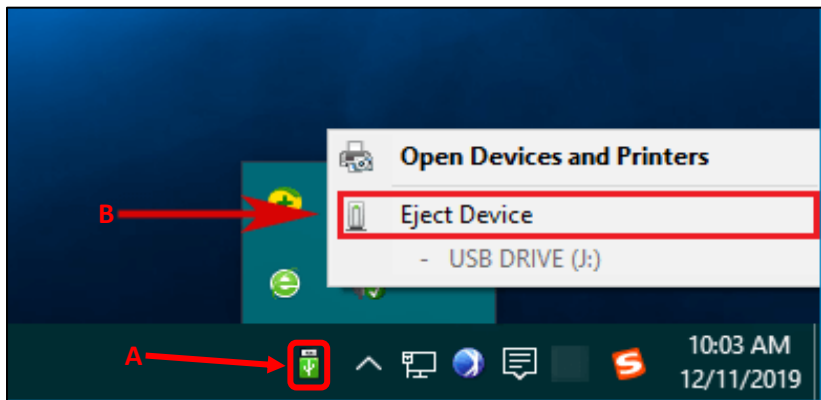

Figure 13: Removing the USB Drive device.
7) Right click on the USB Drive icon on the task bar. (Figure 13 – A)
(Figure 13 – B)